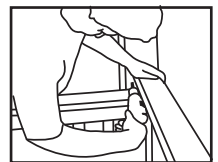

Figure 7
8. Center top rail metal brackets on the mounting surface making sure top rail is aligned above bottom rail. Attach brackets with provided 2" screws (predrill) (Figure 7). **Note:** It may be necessary to move the cover beyond the first spindle for room to drill.